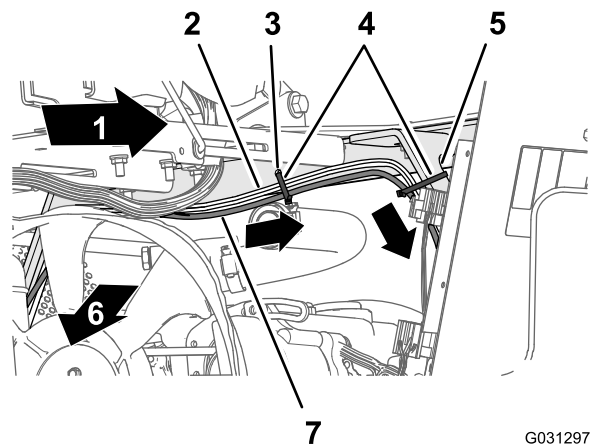
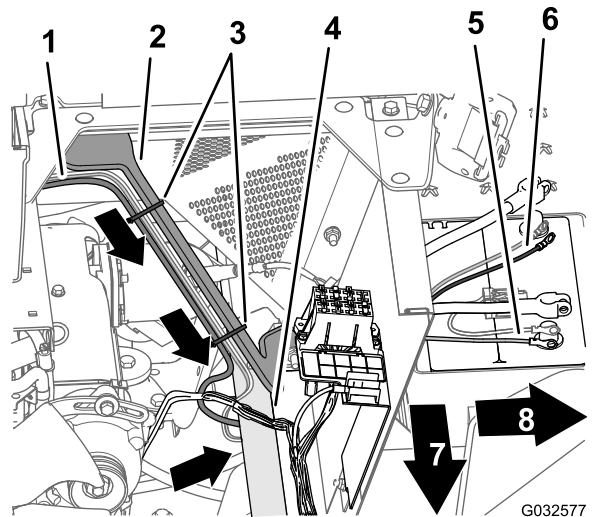

Figure 146
Figure 147
3. Route the 270.5 cm (106-1/2 inch) power branch along the left support for the engine shroud and under the left frame tube (Figure 146).
4. Secure the harness to the hole in the seat-box angle and the engine-shroud support with 3 cable ties (Figure 146 and Figure 147).
- Route the 10 A fuse and the positive- and negative-ring terminals of the 220 cm (86-5/8 inch) branch of the electrical-harness for the navigation system to the top of the battery (Figure 147).